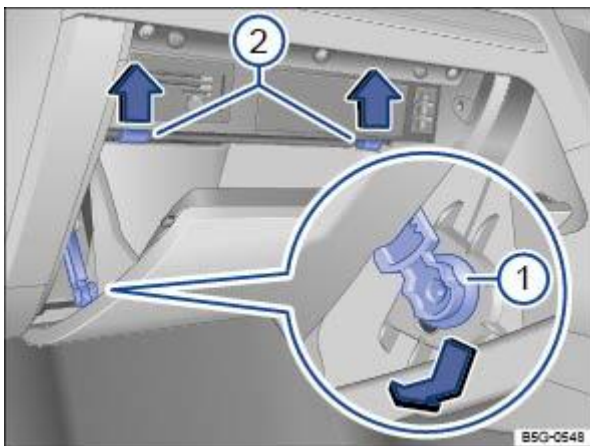

Fig. 171 Fuse box cover in the dash panel: right-hand drive vehicle, on the front passenger side.
☐ Open the stowage compartment on the front passenger side and remove the contents if necessary ⇒ Fig. 171 .
☐ Slide the braking element ⇒ Fig. 171 ① downwards into the opening in the holder and pull it out sideways.
☐ Push catches ⇒ Fig. 171 ② upwards in the direction of the arrow whilst opening the stowage compartment further.
🔧 To install: move the stowage compartment into position. Insert brake element into the opening of the holder and push it upwards until it audibly clicks into place. Carefully push the stowage compartment forwards beyond the resistance of the catches ⇒ Fig. 171 ②.